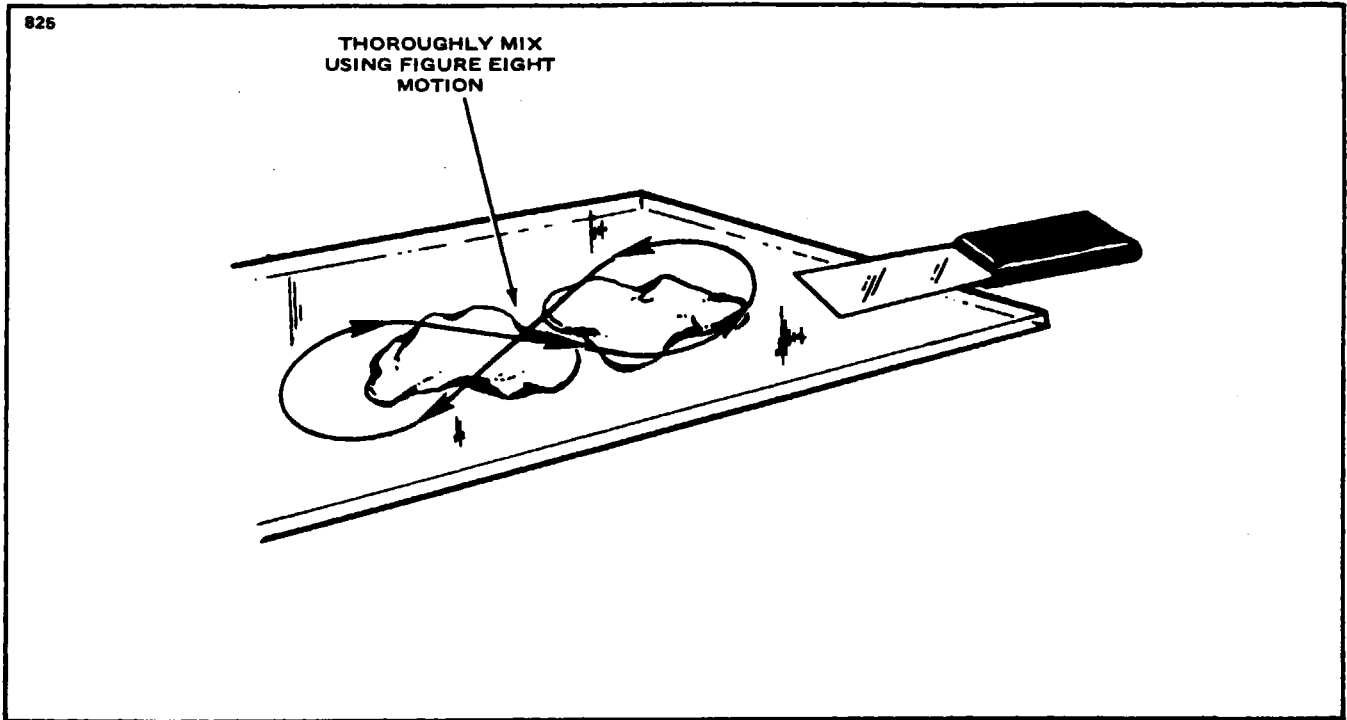

Figure 4-12. Mixing of Epoxy Patching Compound.
6. The patching compound is mixed in equal portions on a hard flat surface using a figure eight motion. The damaged area is cleaned with perchlorethylene or VM&P Naptha prior to applying the compound. (Refer to Figure 4-12.)